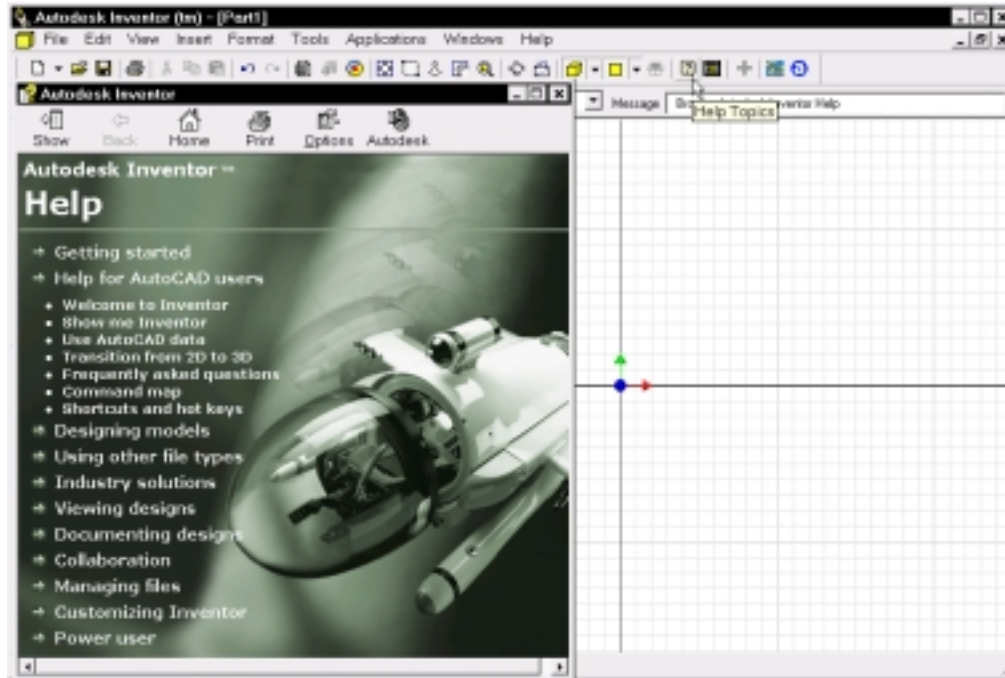

Figure 1-3
2. Select Help Topics from the Standards toolbar. (See Figure 1-3.)